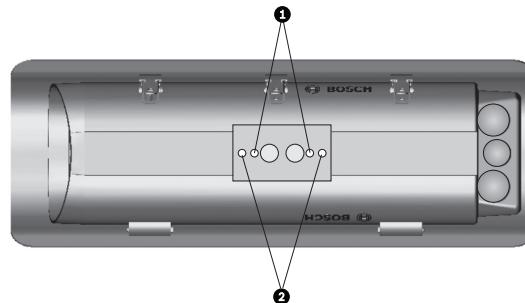

Figure 5.6 Location of feed through wiring holes.
1. Prior to mounting the camera, remove the two dome plugs located inside the housing See *Figure 5.6*.